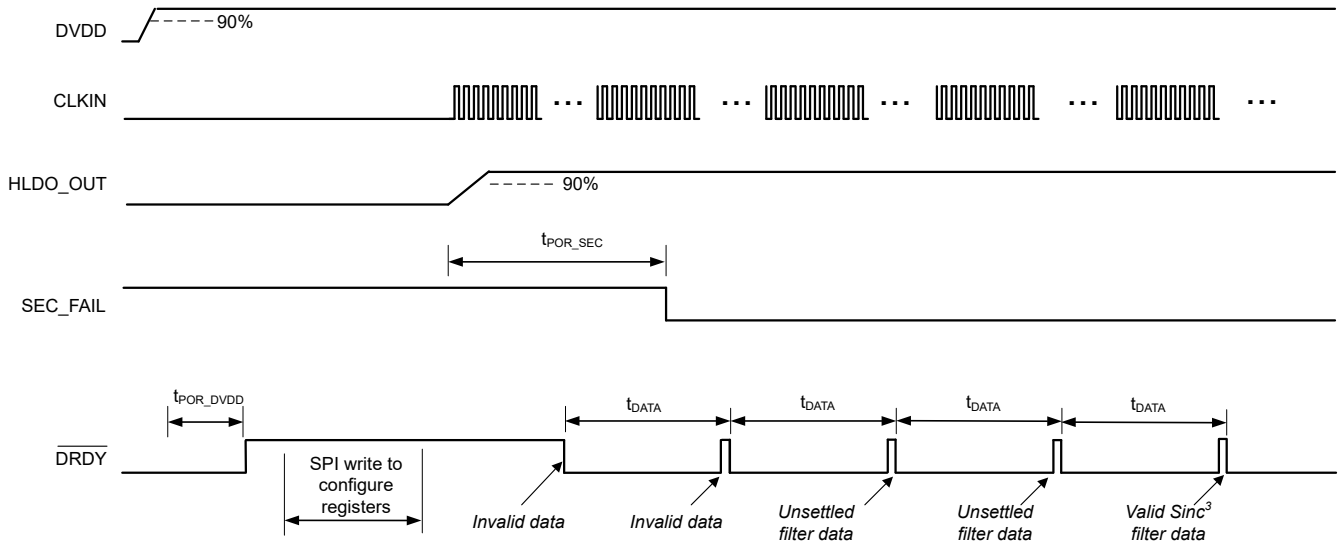
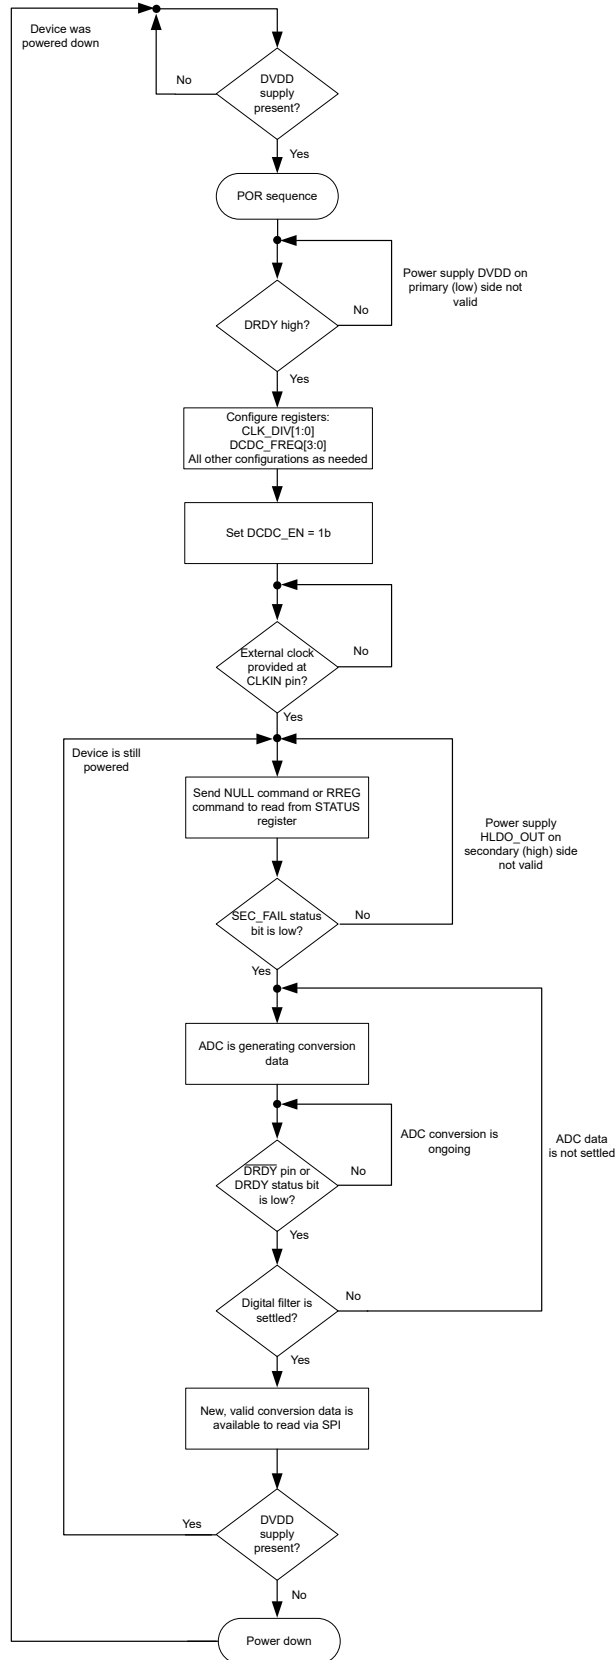

Figure 8-18. Start-Up Behavior at Power-Up and Settling Times, OSR = 1024
Figure 8-19. Flow Diagram for Start-Up Procedure at Power-Up
A recommended procedure for powering up the AMC131M03 is described in this section. Figure 8-18 depicts a timing diagram for the device behavior when this recommended sequence is used. Figure 8-19 provides a flow diagram that displays the recommended sequence in a graphical form.
- The high-to-low transition of $\overline{\text{DRDY}}$ indicates that new conversion data are available. As given in Figure 8-18, ADC data are only valid if the SEC_FAIL reads 0b during the conversion period. The first two conversion results shown in Figure 8-18, represent invalid data.
- When the ADC generates valid data, the digital filter must settle, as described in the SINC³ and SINC³ + SINC¹ Filter section. Two subsequent conversion results illustrated in Figure 8-18 are unsettled (assuming OSR equals 1024), and the last conversion result shown provides valid and settled data.
In Figure 8-18, $t_{\text{POR_SEC}}$ is the time from enabling the DC/DC converter to the first falling edge of the SEC_FAIL bit, which indicates that the secondary power supply at the HLDO_OUT pin is stable. $t_{\text{POR_DVDD}}$ is the time from DVDD supply at 90% to $\overline{\text{DRDY}}$ first rising edge.